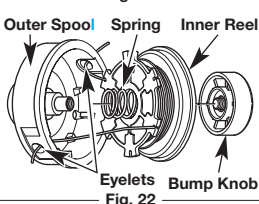

Fig. 22
1. Pass the two line ends through the eyelets in the outer spool. Place the spring inside the inner reel. Insert the inner reel into the outer spool. Push the inner reel and outer spool together (Fig. 22).